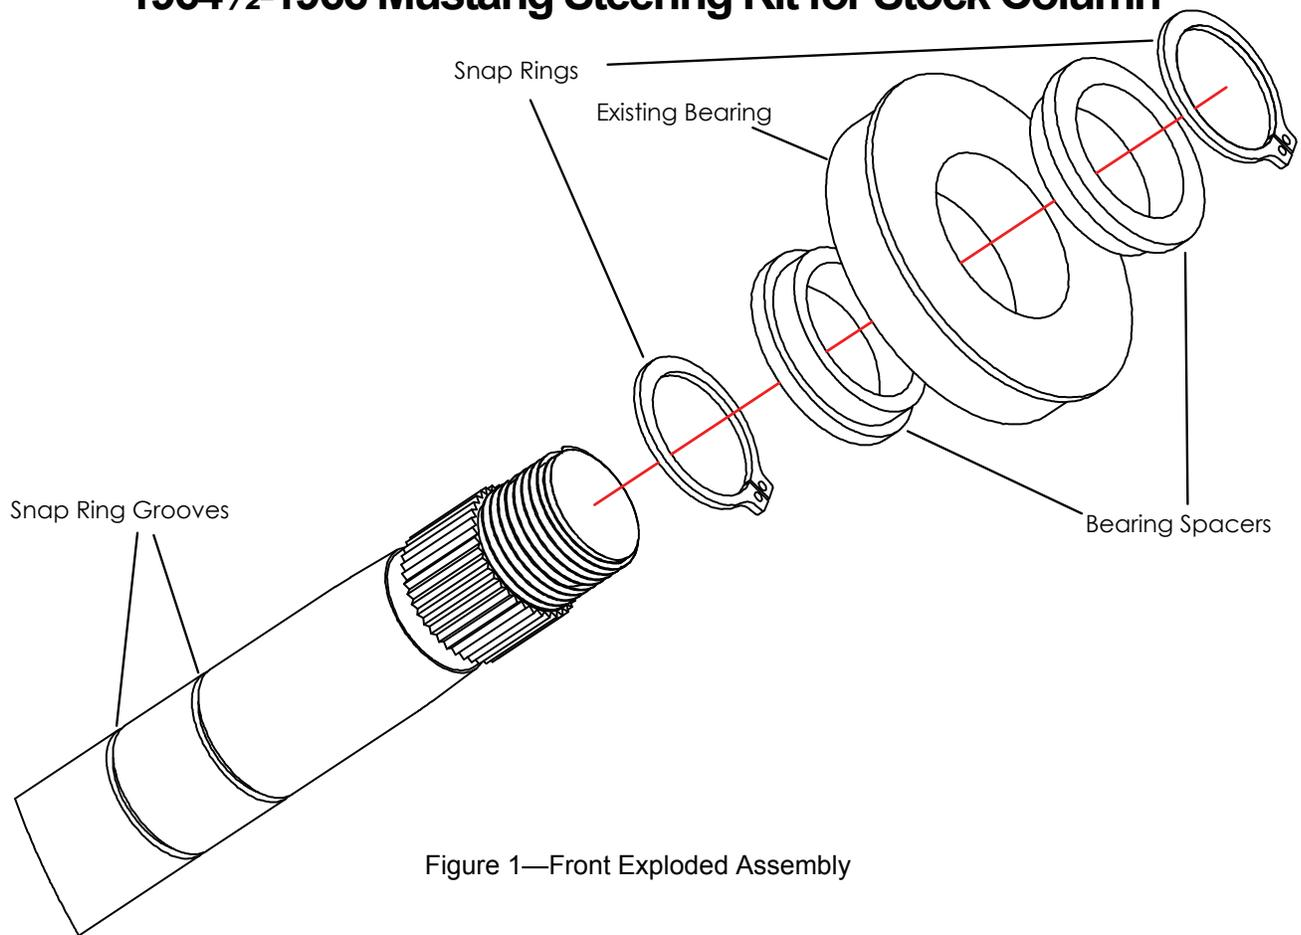

Figure 1—Front Exploded Assembly
2. Install lower (Closer to the front of the car) snap ring and bearing spacer to the appropriate places as shown in figures 1 & 2.